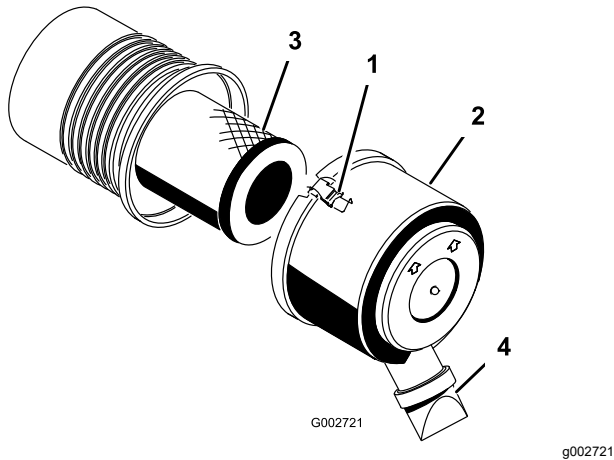

Figure 28
1. Release the latches securing the air-cleaner cover to the air-cleaner body (Figure 28).